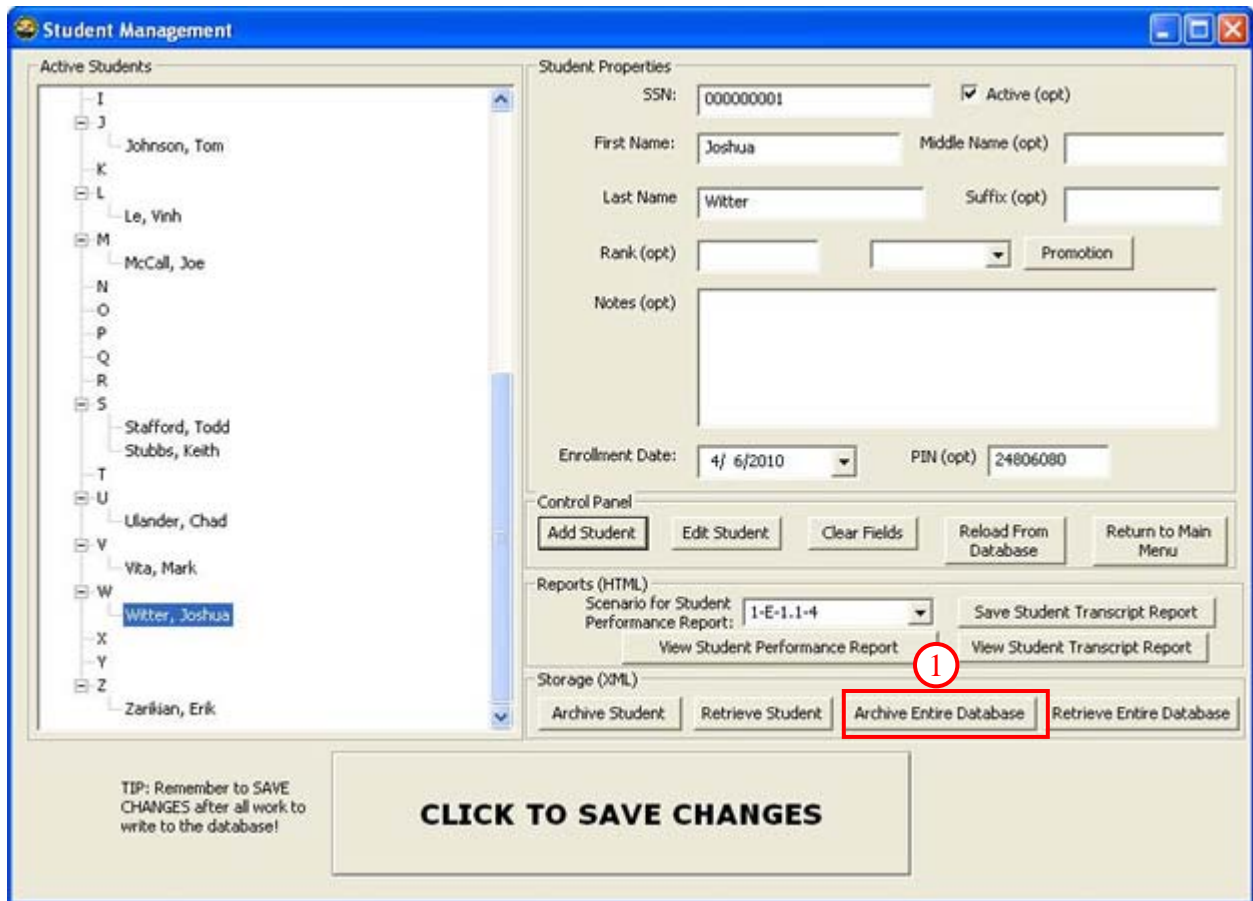

Figure 61. Student Management - Archive Entire Database
1. Click the [ARCHIVE ENTIRE DATABASE] button (Figure 61).